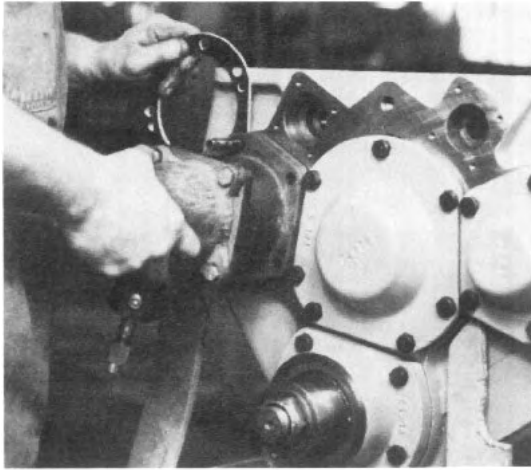

Fig. 33
13. Use feeler gauges to measure the distance between the input shaft rear cap (or PTO assembly) and the case housing (See Fig. 33). Add .005" to this dimension and make a shim pack (Item 16) equal to the dimension thus calculated, or at a maximum, .005" larger than the calculated dimension.
8. Refer to section VI G, paragraph 12 for installation of the PTO unit on the transfer case. Also See Fig. 33 and Fig. 37.